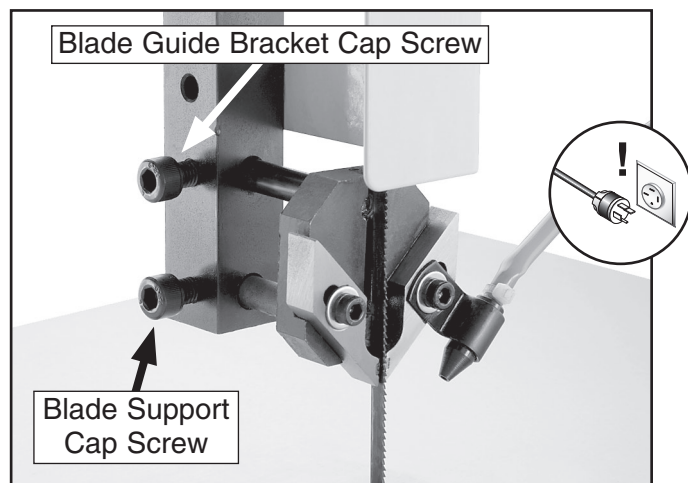

Figure 20. Upper blade guides and bracket.
3. Use a 6mm hex wrench to loosen the cap screws that secure the blade guide bracket and blade support (see **Figures 20–21**).